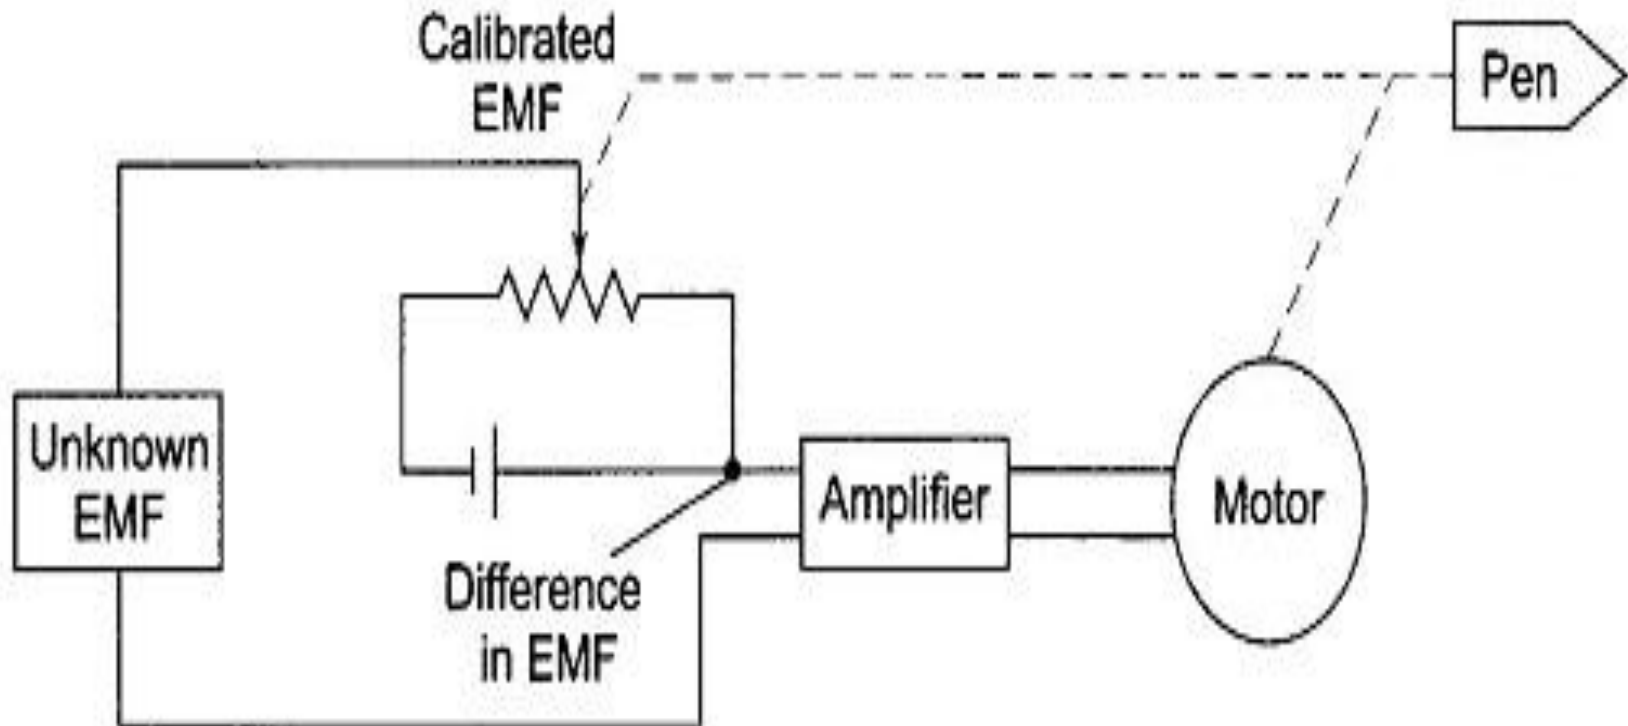

Fig. 12.3 Basic Circuit of a Self-Balancing or Potentiometric Recorder
- Figure 12.3 is a basic circuit of a potentiometric or self-balancing recorder.